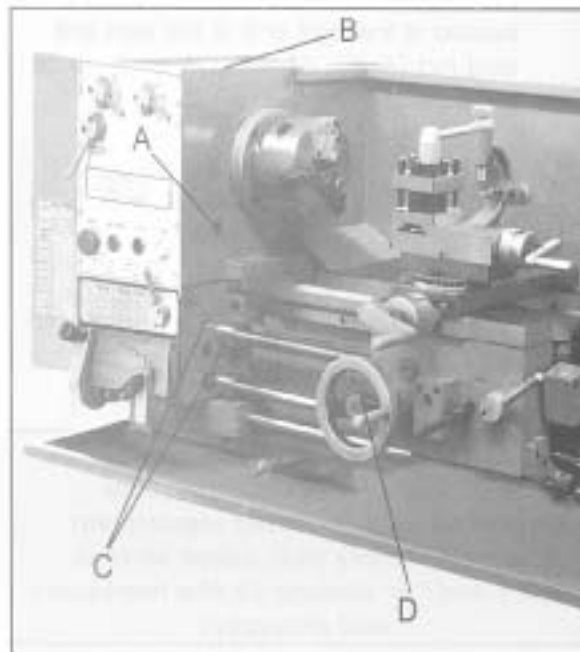
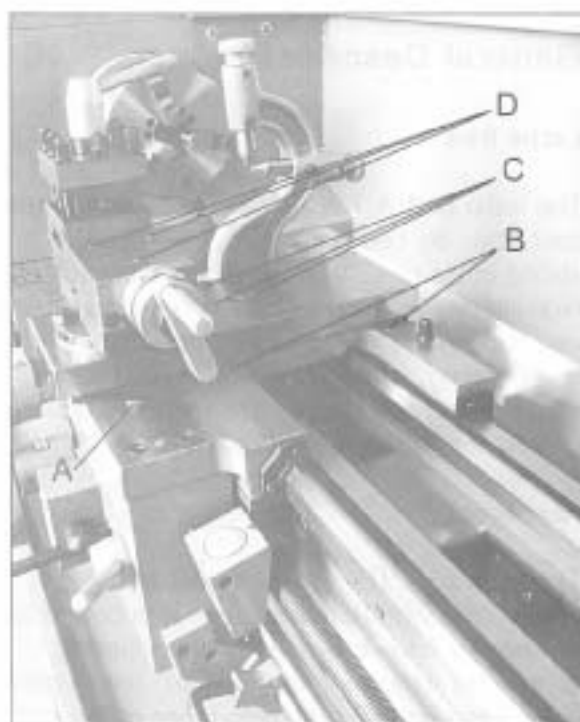

Fig. 3
Fig. 4
1. **Headstock** – Oil must be up to indicator mark in oil sight glass(A, Fig. 3). Top off with Shell Turbo T – 68 or equivalent. Fill by pulling plug(B, Fig. 3). To drain, remove drain plug with 8 mm hex wrench. Drain oil completely and refill after the first three months of operation. Then, Change oil in the headstock annually.
3. **Gearbox** – Lubricate two oil ports(C, Fig. 3)with Shell Turbo T – 68 or equivalent daily.
4. **Apron** – Remove oil cap(A, Fig. 4) on top of apron to fill. To drain, remove drain plug on bottom of apron. Drain oil completely and refill with Shell Turbo.T68 or equivalent after the first three months of operation. Then, change oil annually. Lubricate one oil port(D, Fig. 3)on the apron hand wheel once daily with 20W machine oil.
5. **Cross Slide** – Lubricate three oil ports (C, Fig. 4) with 20W machine oil once daily.
6. **Compound Rest** – Lubricate three oil ports(D, Fig. 4)with 20W machine oil once daily.
7. **Carriage** – Lubricate two oil ports(B, Fig. 4)with 20W machine oil once daily.